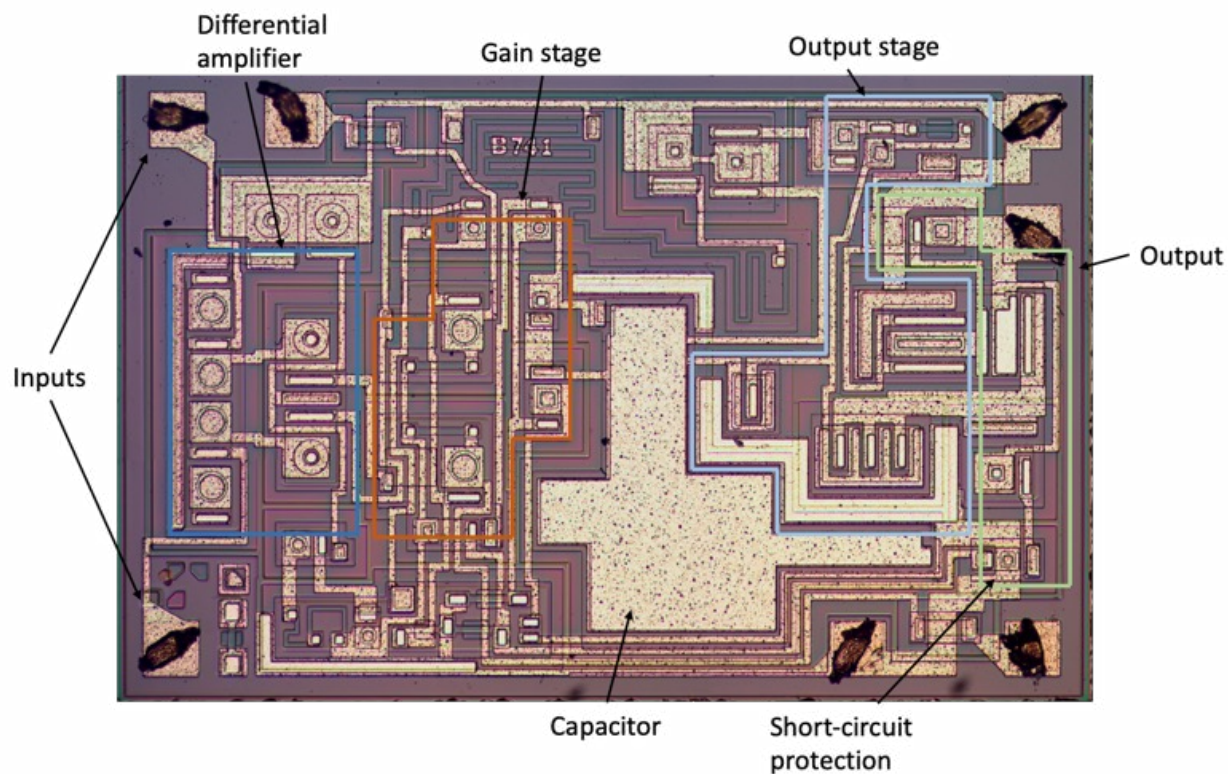
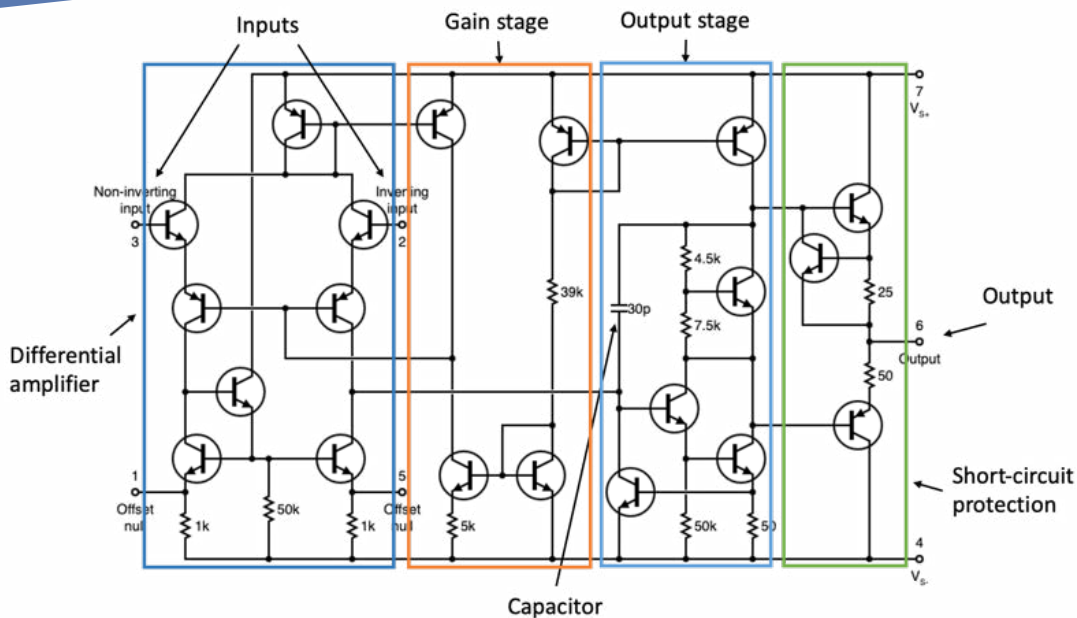

Figure 1- 741 Operational Amplifier Functional Block Diagram overlaid on top of the optical image of the amplifier.
Figure 2- 741 Operational Amplifier Functional Block Diagram overlaid on top of schematic diagram of the amplifier.
This month's Technical Tidbit covers Functional Block Diagrams. Functional Block Diagrams are a visual aid to understand the layout and functionality of integrated circuits. Historically, a Functional Block Diagram would identify basic circuit elements like transistors. Figure 1 shows an example of a Functional Block Diagram for a 741 Operational Amplifier circuit overlaid on an optical image of the 741 Operational Amplifier circuit, and Figure 2 shows the Functional Block Diagram for the 741 Operational Amplifier circuit overlaid on the schematic for the 741 Operational Amplifier circuit.
A: This is a complex answer, as there are similarities and differences. With regards to similarities, the short answer is that TMAH, EDP and Choline Hydroxide all show some preference for etching along different crystal planes. These etchants also typically show a minimum amount of etching along the (111) crystal direction. To give you a sense of the differences regarding higher etch rates, we show two plots. Figure 1 shows the plots for TMAH under several different etch conditions. Figure 2 shows the plot for KOH, as a comparison.